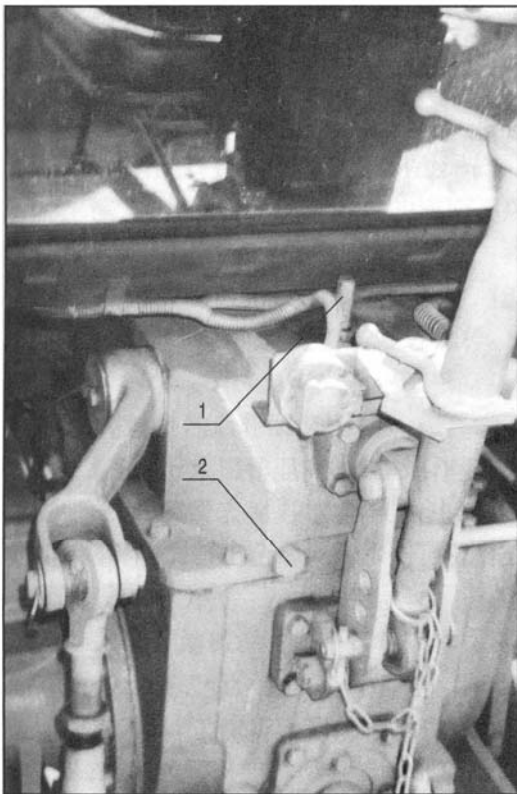

Fig.35 Location map of hydraulic fluid connection of Raiser
e. Slowly control handle up and lift arm and the heavy rise slowly. When the handle moves to the top position, the angle between lift arm and level should be 53° . If it's less than 53° , the adjusting turnbuckle on the reactive lever should get adjusting, and increase the length of reactive lever (S) until reaching 53° . Or, it cannot reach the lifting travel.
a. Lifter body is an oil tank of hydraulic suspending system. See Fig. 35 for the inlet and outlet ports. Only No. N100 driving hydraulic dual-purpose oil is applicable.